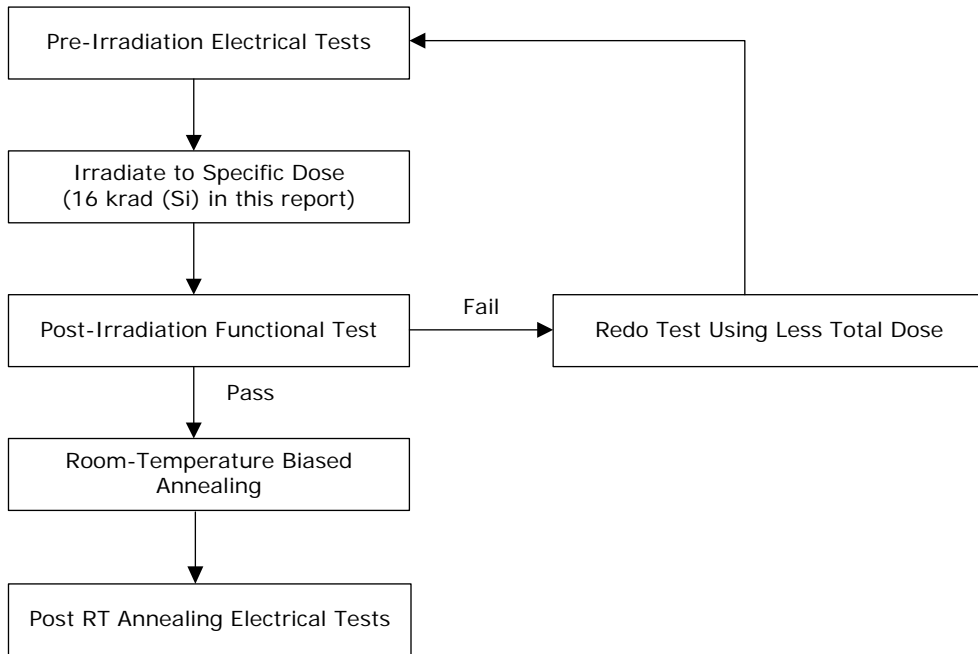

Figure 1 Parametric Test Flow Chart
- Method two performs irradiation and then parametric test. Gross functional test is included in this method. This method is in compliance with TM1019. Biased room-temperature-annealing is used to simulate the low-dose-rate space environment. Figure 1 shows the process flow. Rebound annealing at 100°C is omitted because the previous results shows that antifuse field programmable gate arrays (FPGAs) fabricated in the MEC foundry have no rebound effects.
This section presents the parametric test results for pre-irradiation and post room temperature annealing tests. The only post-irradiation test is the gross functional test, as shown in Figure 1.